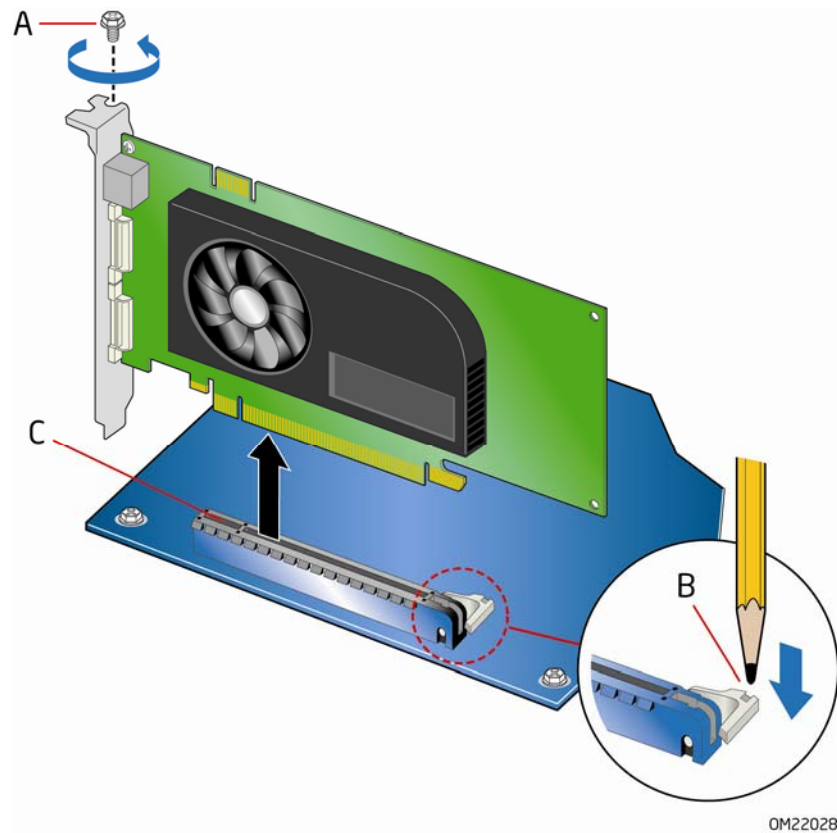

Figure 18. Removing a PCI Express x16 Graphics Card
3. Remove the screw (Figure 18, A) that secures the card's metal bracket to the chassis back panel.
4. Push the card ejector lever down using the tip of a pencil or similar tool (Figure 18, B) in the notch. This will release the card from the connector (C).